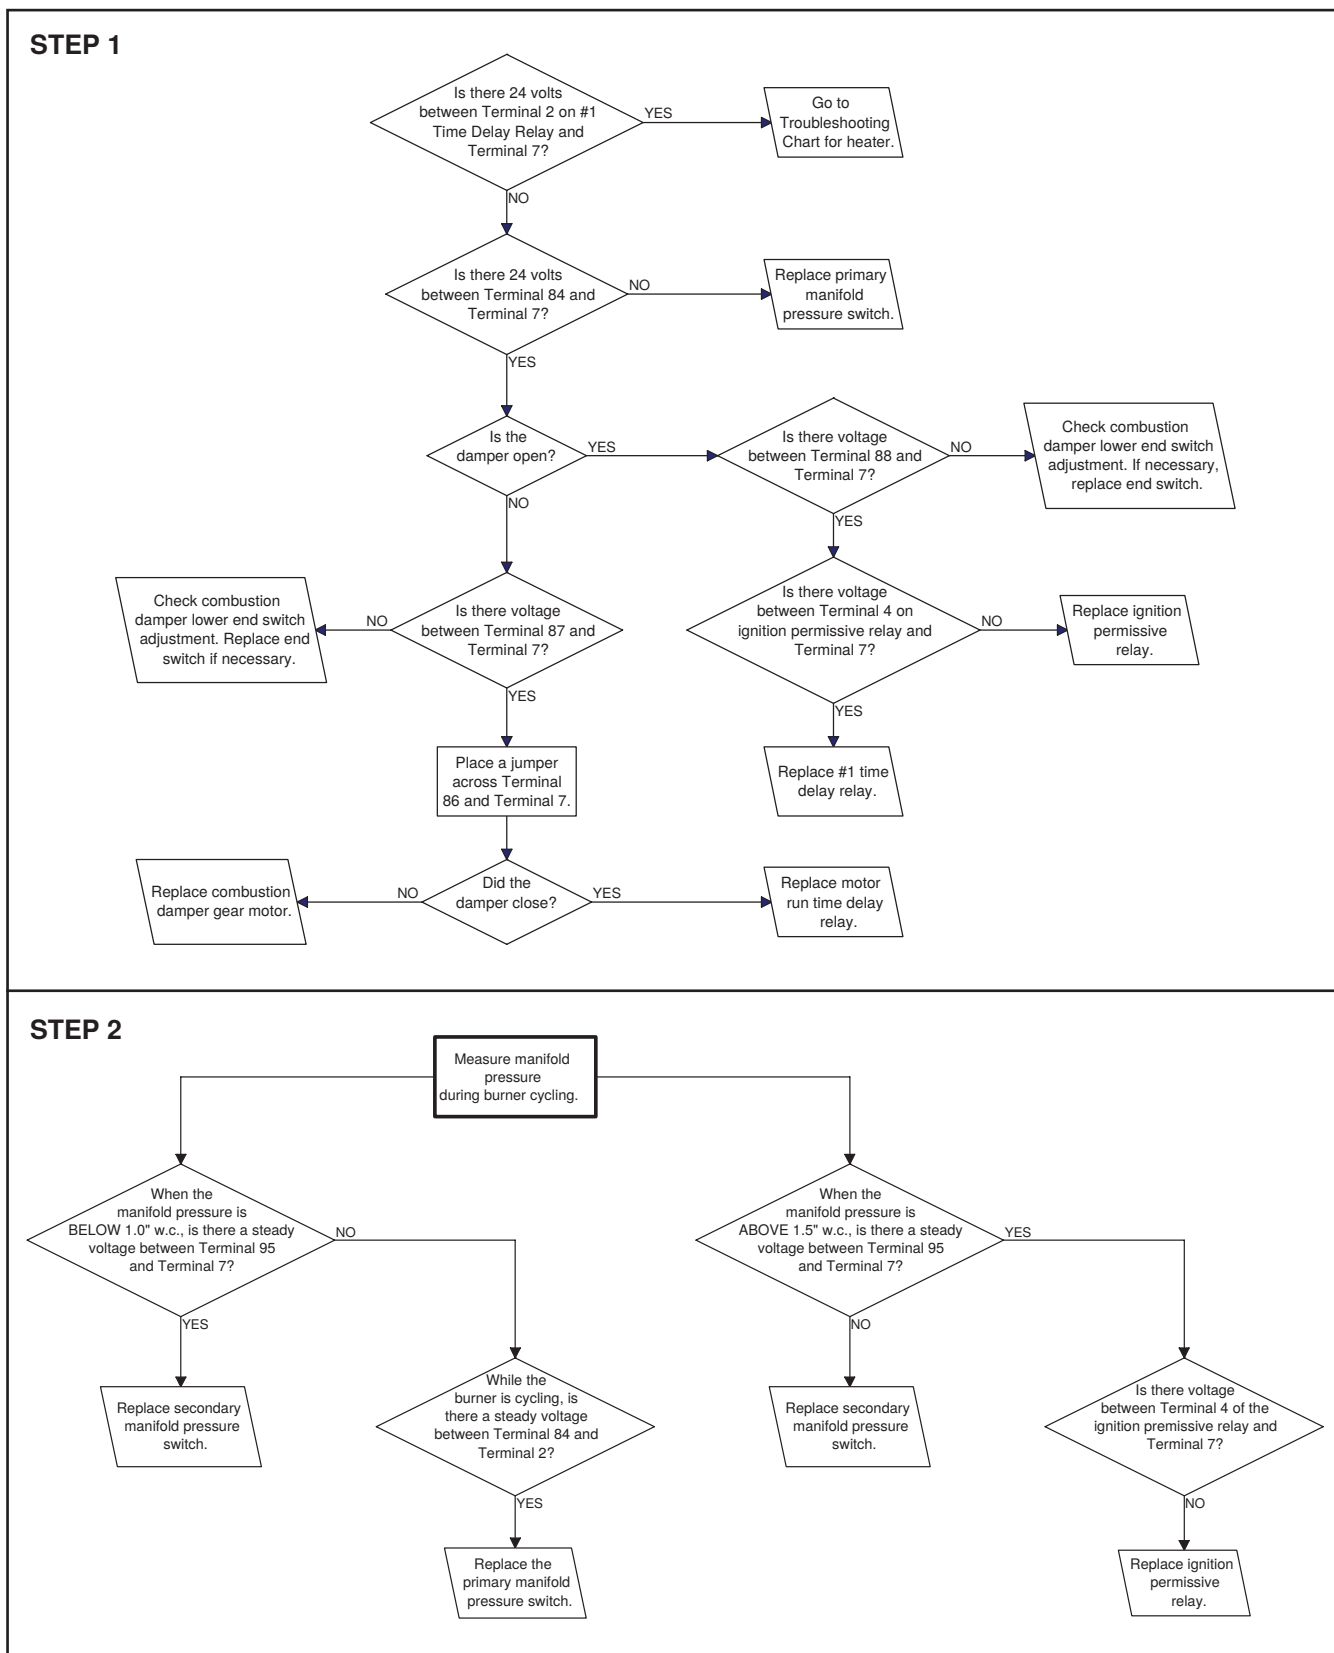

Figure 45. Troubleshooting Guide for Checking Bypass Combustion Air Damper Safety Circuit on Units with Option AG39, AG40, AG41, or AG42
1. Main burners are inoperative—24V is available between terminals 2 and 7 (see step 1, Figure 45).
2. Steady call for heat (burner cycles)—24V is available between terminals 11 and 7 and terminals 2 and 7 (see step 1, Figure 45).